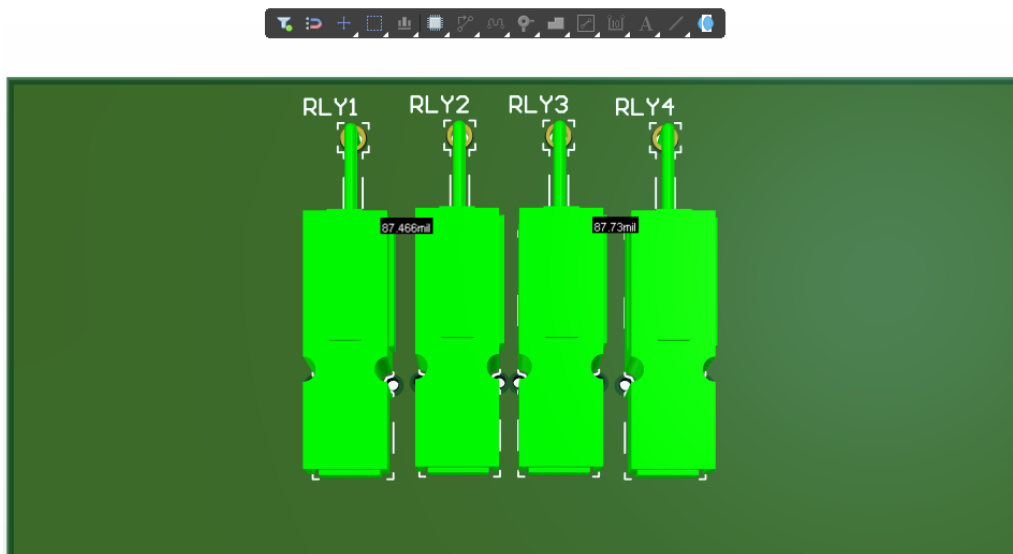

Figure 10. Component Clearance Rule
37. Drag RLY1, RLY2, RLY4 and RLY3 on to the PCB, and place them close as possible. It will be clear to when the placement violations appear, the components should be highlighted in green, as seen in Figure 10.